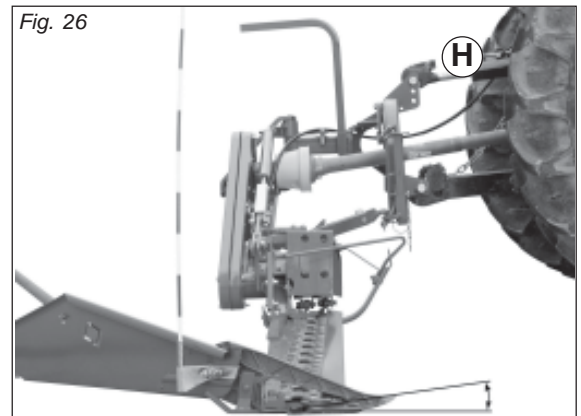

Fig. 26
- Adjust inclination of the cutting arm teeth using tie rod (H, Fig. 26).